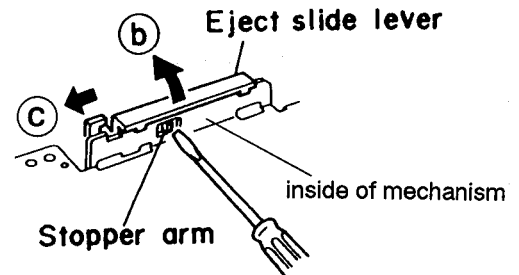

Fig. 2-36
### ■ Eject slide lever (Fig. 2-36)
1. Place the cassette mechanism back side frontward and disengage the stopper arm ① of the Eject slide lever by pressing it inwards through the opening of the chassis with a small screwdriver as shown in Fig. 2-36.
2. Disengage the Eject slide lever in the direction of arrow ②.